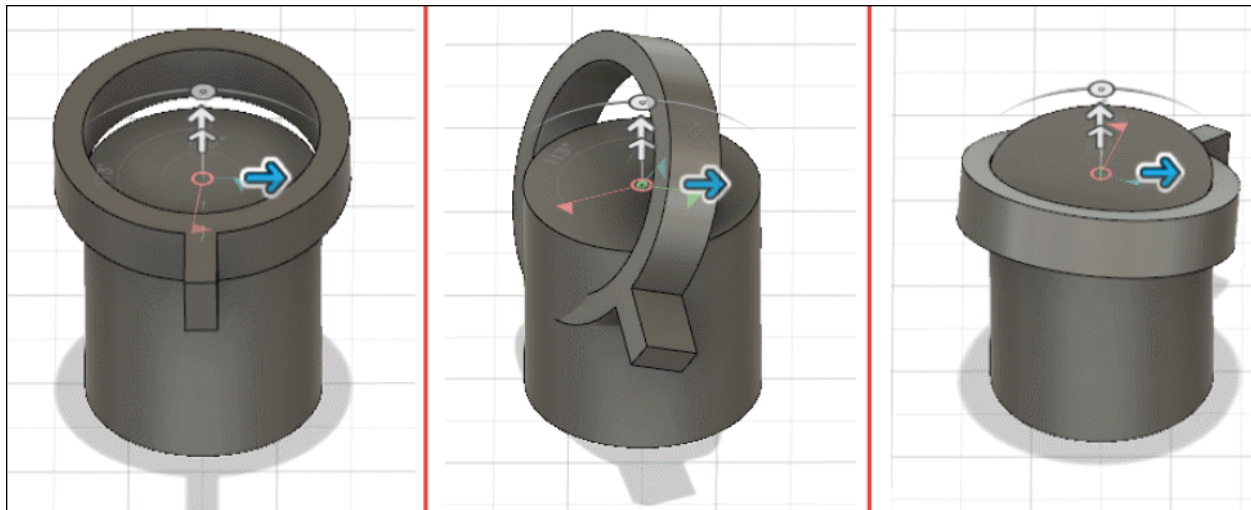

Figure-19. Ball motion
- Click on the **Ball** option from **Type** drop-down in the **Motion** tab of **JOINT** dialog box, if you want to assemble the component in such a way that the component is free to move 360 degree in 3D space pivoted to a point; refer to Figure-19.